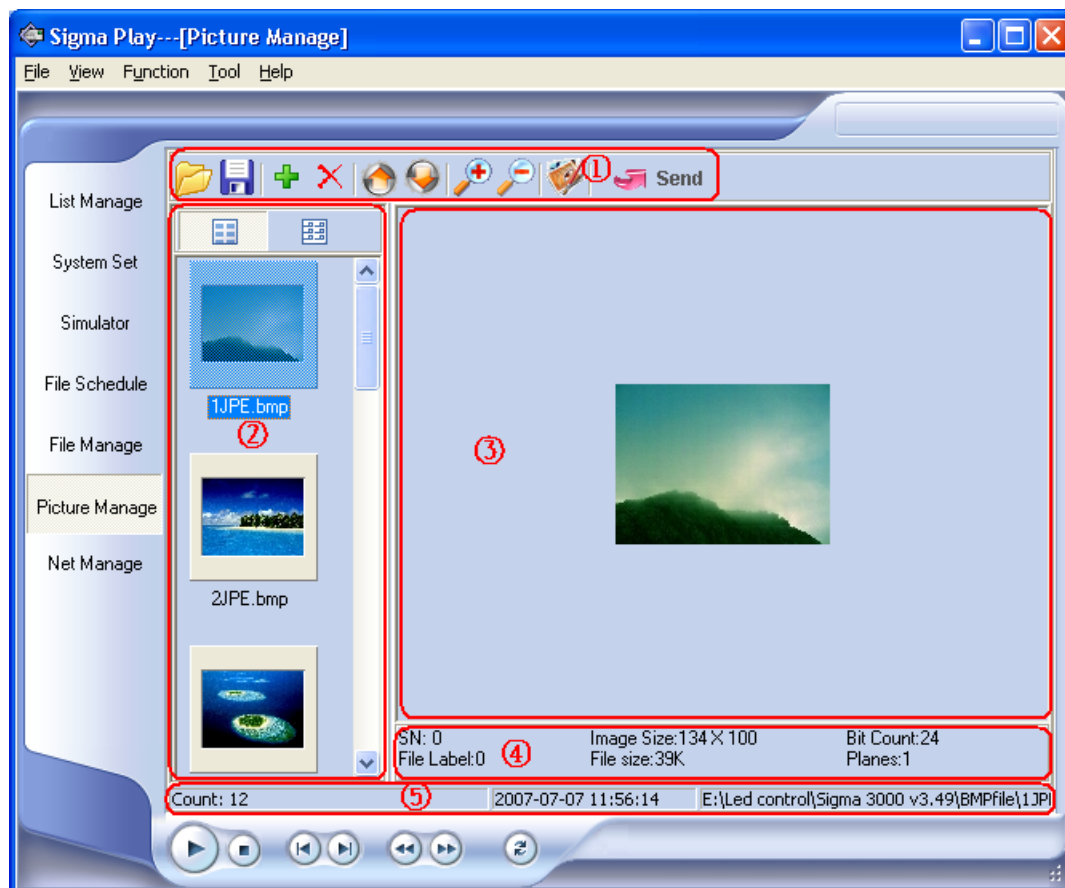

Fig. 6.16 Interface of Picture Manage
Fig. 6.16 is the Picture Manage, ① is Tool bar; ② is List of pictures; ③ is picture preview; ④ is Information of the picture; ⑤ is Status column. The following is the introduction of the tools in Tool bar.